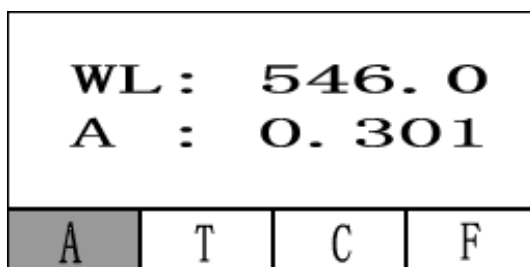

Fig. 4-2
Step 4, Sample Measurement, put the sample to be measured in the light path, then the result displays on the screen automatically. (Fig. 4-2)